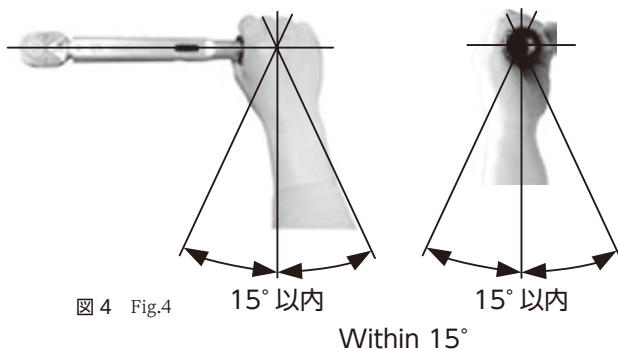

図 4 Fig.4
上下左右とも± 15°以内にする。(図 4)
- The loading direction must be at a right angle to the torque wrench. The tolerance is plus/minus 15 degrees of horizontal or vertical deviation. See Fig. 4.